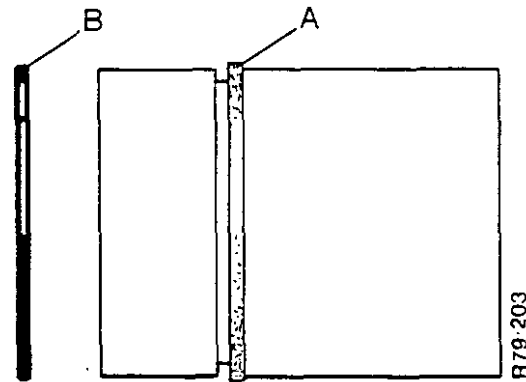

FIGURE 136. PISTON FOR THE RAM CYLINDER
4. Fit the new leather ring in the position shown in Figure 136. The smooth face of the ring must be against the side of the groove. Make sure that the leather ring is on its seat and is not twisted.